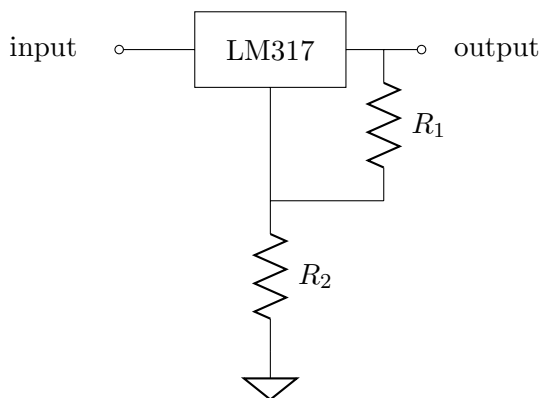

Figure 2: LM317 linear regulator circuit.
- For the circuit of Fig. 2, with sing an input voltage of 9V and $R_1=510\Omega$, what's the value of R_2 such that the output voltage is 5 V? What is the efficiency of the regulator in this case? “LM317” refers to the Texas Instruments LM317 voltage regulator IC. You should be able to find its datasheet online.